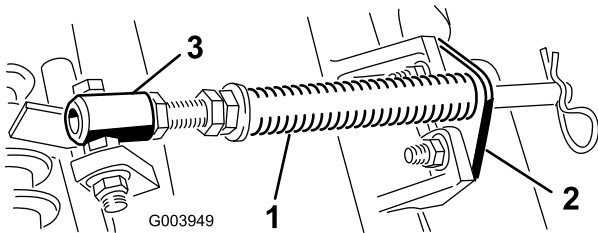

Figure 5
- A. Remove the 2 carriage bolts and nuts securing the rod bracket to the cutting unit tabs (Figure 5).
- B. Remove the flange nut securing the spring tube bolt to the carrier frame tab (Figure 5) Remove the assembly.